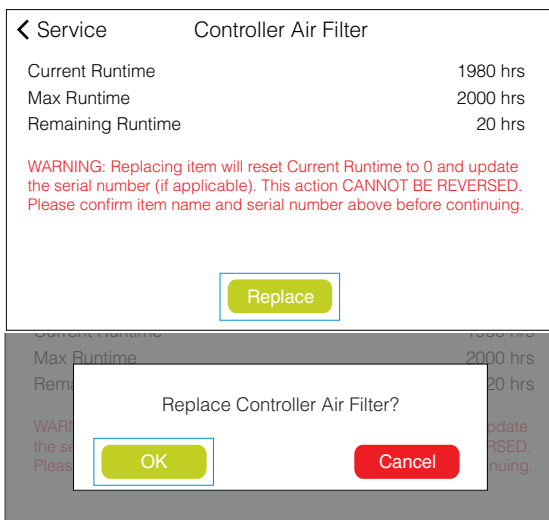

FIGURE 52. PRESS REPLACE; OK
10. On the Controller Air Filter screen, press **REPLACE**. Press OK on the pop-up dialogue box (FIGURE 52).